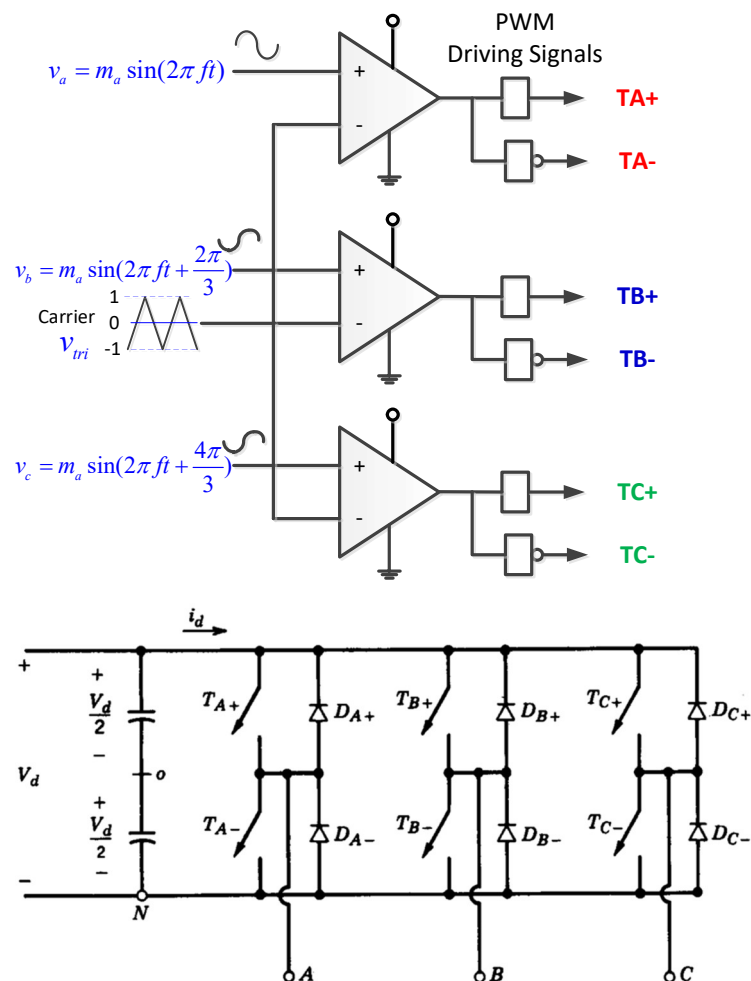

Figure Q4
- Q4 Figure Q4 shows a three-phase PWM inverter with its bipolar PWM drive circuit, where the carrier frequency f_c is much higher than the control signal frequency f , the control signals $v_a = m_a \sin(2\pi ft)$, $v_b = m_a \sin(2\pi ft + 2\pi/3)$ and $v_c = m_a \sin(2\pi ft + 4\pi/3)$, and peak values of the triangle carrier signal are 1 and -1.